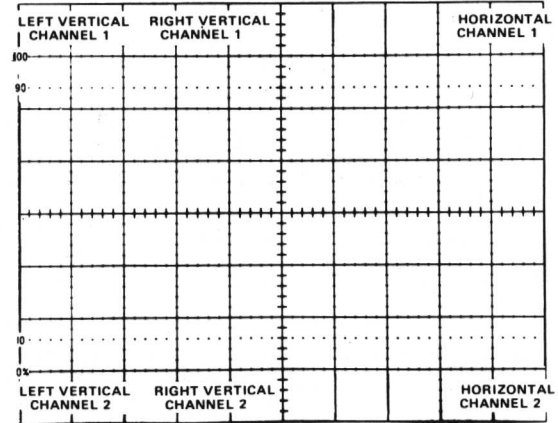

Fig. 2-28. Location of Readout words on the cathode-ray tube identifying the originating plug-in and channel (one complete frame shown, simulated readout).
Frame—A frame is a display of all words for a given operating mode and plug-in combination. Up to six ten-character words can be displayed in one frame. Figure 2-28 shows the position of each word in a complete frame.
Display Format. Up to six words of readout information can be displayed on the crt. The position of each word is fixed and is directly related to the plug-in unit from which it originated. Figure 2-28 shows the area of the graticule where the readout from each plug-in unit is displayed. Notice that Channel 1 of each plug-in unit is displayed within the top division of the crt and Channel 2 is displayed directly below within the bottom division. Figure 2-30 shows a typical display, where only Channel 2 of the Right Vertical unit and Channel 2 of the Horizontal unit are displayed.
The Format Generator stage provides the output signals to the vertical and horizontal deflection systems of the instrument to produce the character display. The binary Channel Address Code from the Channel Counter stage is connected to this stage, so that the display from each channel is positioned to the area of the crt associated with the plug-in and channel originating the word (see Fig. 2-28). The positioning current or decimal point location current generated by the Decimal Point Logic and Character Position Counter stage is added to the Horizontal (X) signal at the input to the Format Generator stage to provide horizontal positioning of the characters within each word. The X and Y Readout signals are connected to the Horizontal Amplifier and Vertical Amplifier through the X and Y Output stages.